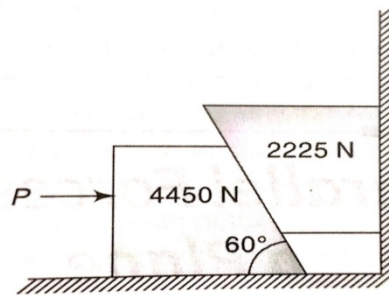

Figure 2.16
17. Referring to the Figure 2.16, the coefficients of friction are as follows: 0.25 at the floor, 0.30 at the wall, and 0.20 between blocks. Find the minimum value for a horizontal force P applied to the lower block that will hold the system in equilibrium.